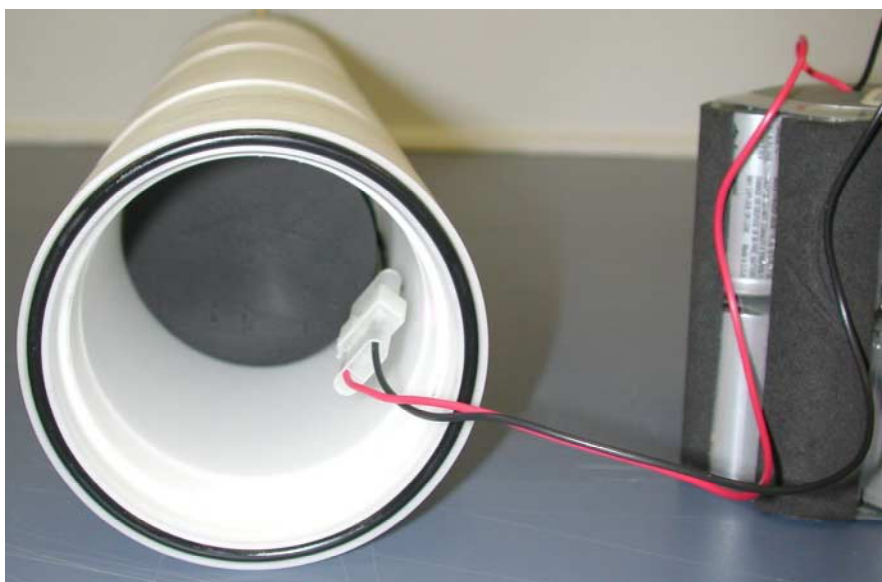

Figure 9 – Triton Battery Connection
- The DC power supply is connected to a keyed, 3-pin, red connector on the analog board. DC power (whether from a battery pack or an external supply) is wired to this connector (Figure 9). See §6-1 for input power specifications.